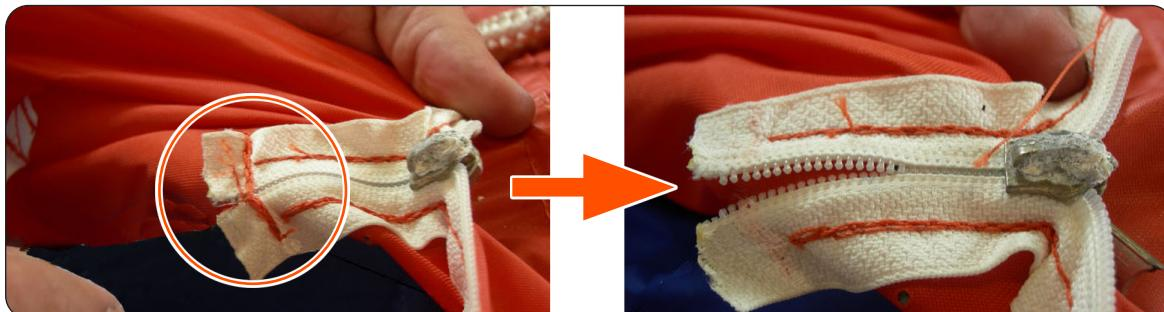

FIGURE 3
- (f) Use a stitch picker to carefully remove the zip securing stitches from the back of the zips. Refer to **Figure 3**.
- (4) Remove the inner metal zip slider:
- (d) Use a stitch picker to carefully remove the zip securing stitches from the back of the zips. Refer to **Figure 3**.